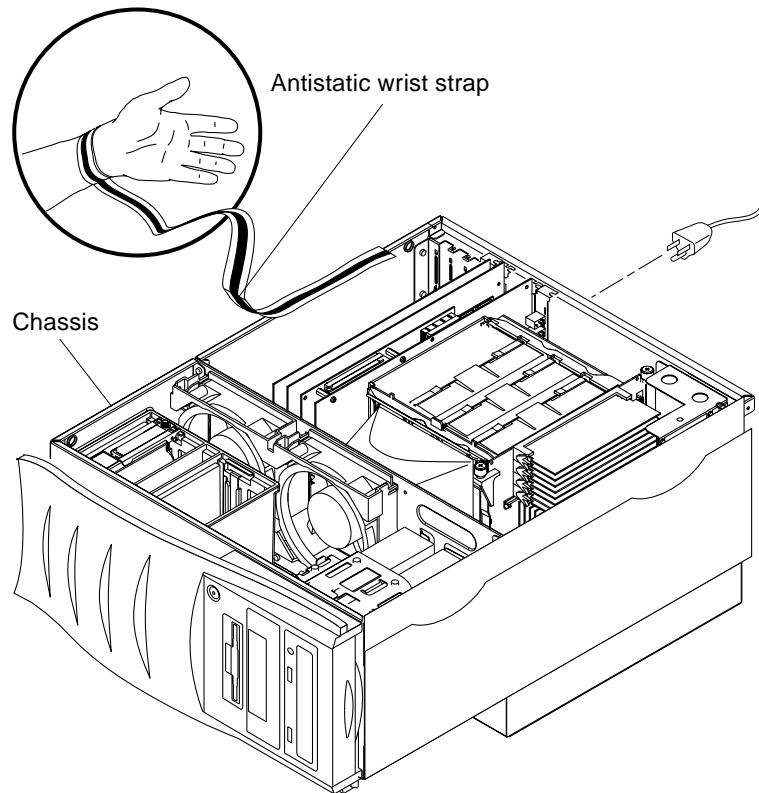

FIGURE 2-4 Attaching the Antistatic Wrist Strap to the Chassis
2. **Attach the antistatic wrist strap as follows (FIGURE 2-4):**